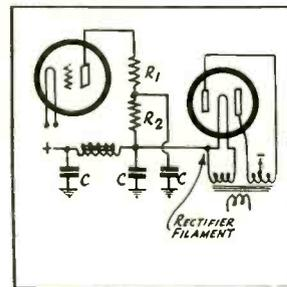
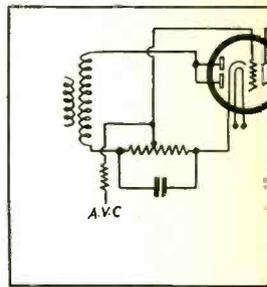
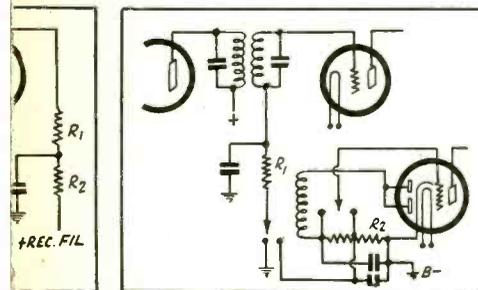

FIG. 5
FIG. 7
FIG. 8
**Bottom Row**—Fig. 5 shows how the voltage applied to the plate is raised drop in R2, and an extra filter condenser, at right, introduced to prevent tubes paralleled. Fig. 7 gives the diode full voltage and the triode and auto than that voltage. Fig. 8 shows how a.v.c. may be included or excluded voltage put into the triode, both by switch